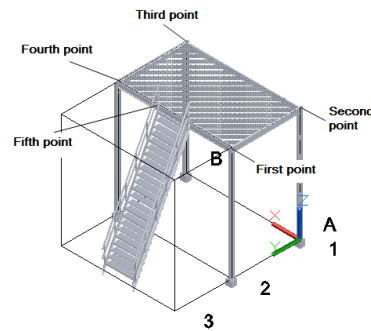

Figure 3-48 Points to be selected to create the railing
4. Invoke the **Railing** tool again and select the points, as shown in Figure 3-48; a railing is created between the selected points. Next, press ENTER.